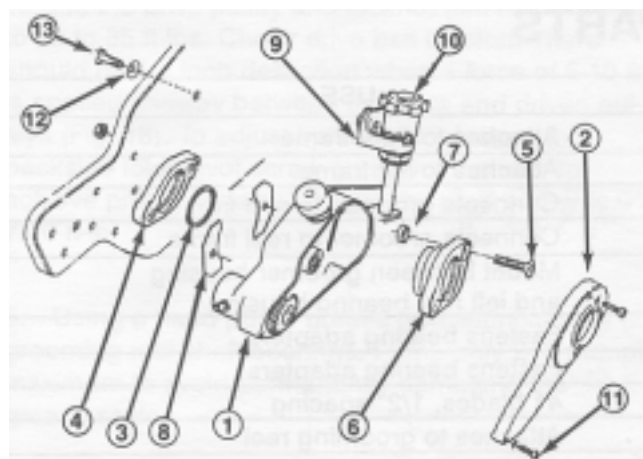

Figure 3
- A. Remove (3) socket head capscrews and lock washers securing cover to groomer housing assembly (Fig. 3).
- B. Insert a adapter ring into reel bearing housing (Fig. 3 & 4).
- C. Insert (2) 3/8-16 x 2" lg. flat head screws through bearing adapter and position spacers on ends of screws (Fig. 3 & 4).
8. Mount groomer adjustment knob assembly to left side plate with a 3/8-16 x 5/8" lg. capscrew and Belleville washer. Reinstall left bedbar adjuster frame to side plate with capscrews and washers previously removed (Fig. 3).